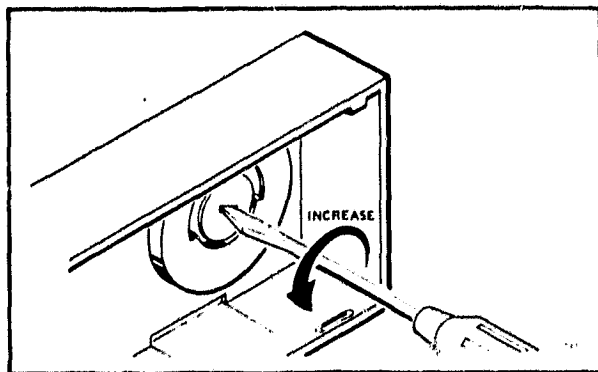

FIG. 11—THERMOMETER CALIBRATION.
4. Insert a small screwdriver in the thermometer shaft (Fig. 11) and turn it until the thermometers read the same. When thermometer is calibrated, replace cover and place system and fan switches for desired operation.